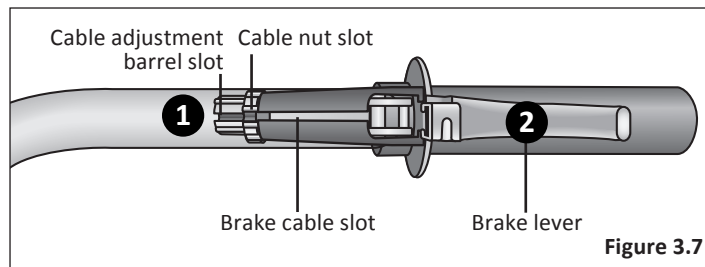

Figure 3.7
- 1 Rotate the cable adjustment barrel and cable nut until the slots are aligned with the slot on the brake lever body. **Figure 3.7**